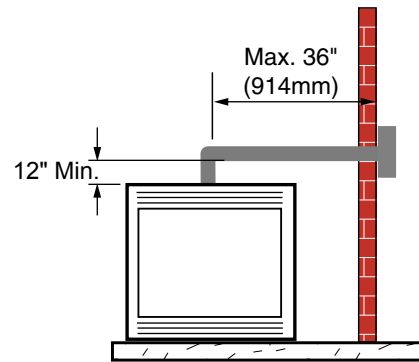

Figure 15 - Maximum Horizontal Run with No Rise
- A minimum of 12" (305 mm) is required before a 90° elbow. If a 90° elbow is fitted directly after 12" (305 mm) vertical section mounted to the top of the fireplace, the maximum horizontal vent run before the termination or a vertical rise is 36" (914 mm). *Figure 15*